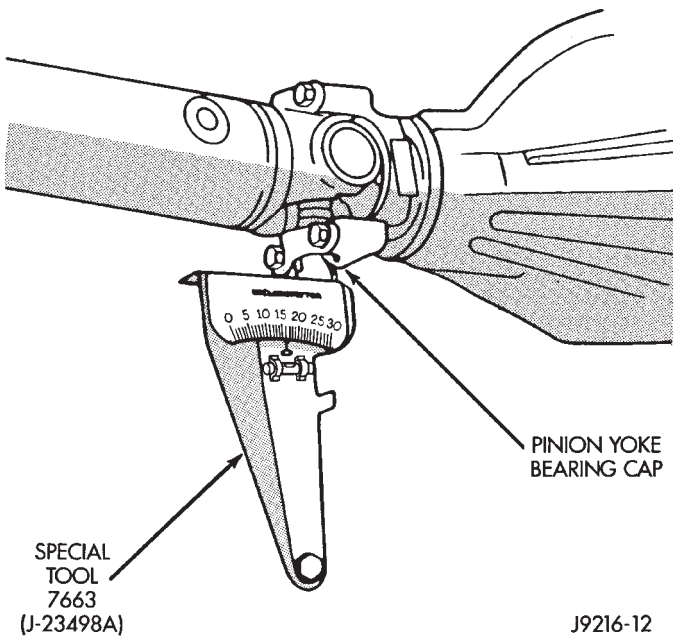

Fig. 7 Rear (Input) Angle Measurement (B)
- (5) Rotate propeller shaft 90 degrees and place Inclinator on pinion yoke bearing parallel to the shaft (Fig. 7). Center bubble in sight glass and record measurement.